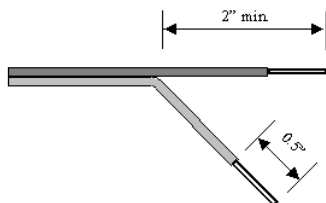

Figure 6 Speaker wire preparation
2. Strip one half inch of insulation from the end of each conductor as show in **Figure 6**.